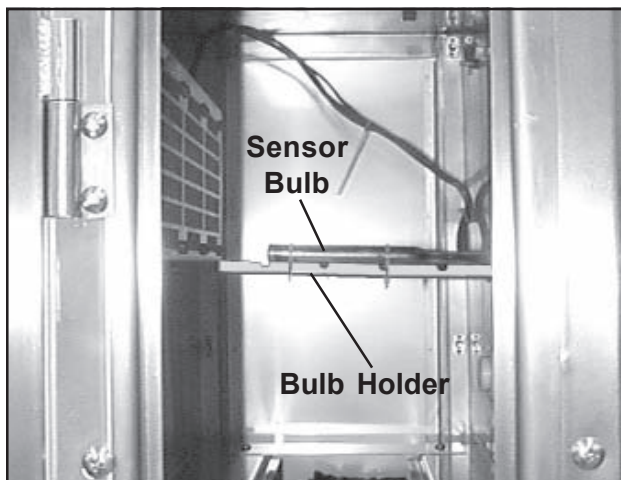

Figure 130. Sensor Bulb and Bulb Holder
16. In the filter/fans compartment, use a knife or small cutter to cut the two wire ties that hold the temperature sensor bulb to the bulb holder (Figure 130).